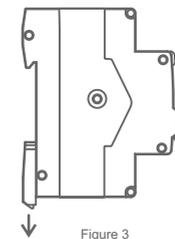
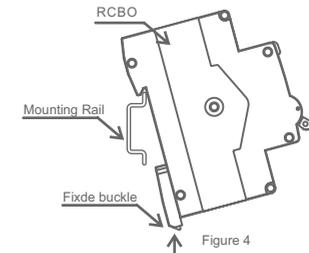

Figure 3
Figure 4
b. Disassemble: Pull the fixed buckle of the RCBO down in the arrow direction as shown in Figure 3, and then pull the RCBO as shown in Figure 4. The lower end of the RCBO is lifted up and pushed upward, then the RCBO can be removed.